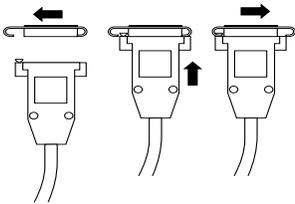

Figure 3-4
- Make sure the sliding bracket on the Ethernet port on the system is pushed all the way left, as shown in Figure 3-4.